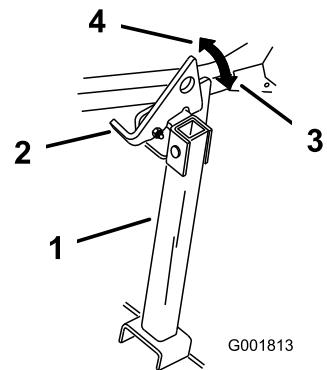

Figure 10
2. Raise the latch to the unlocked position (Figure 10).